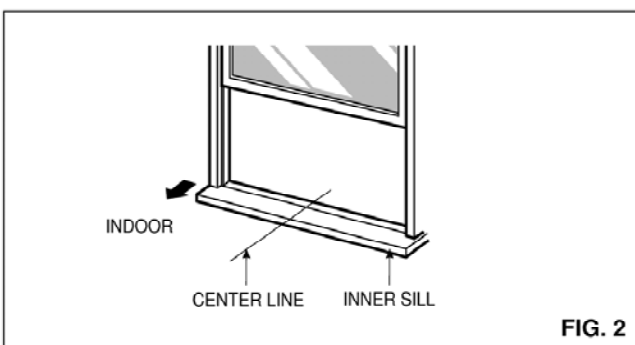

FIG. 2
2. Mark center line with pencil on the center of the inner sill, as shown in FIG. 2.